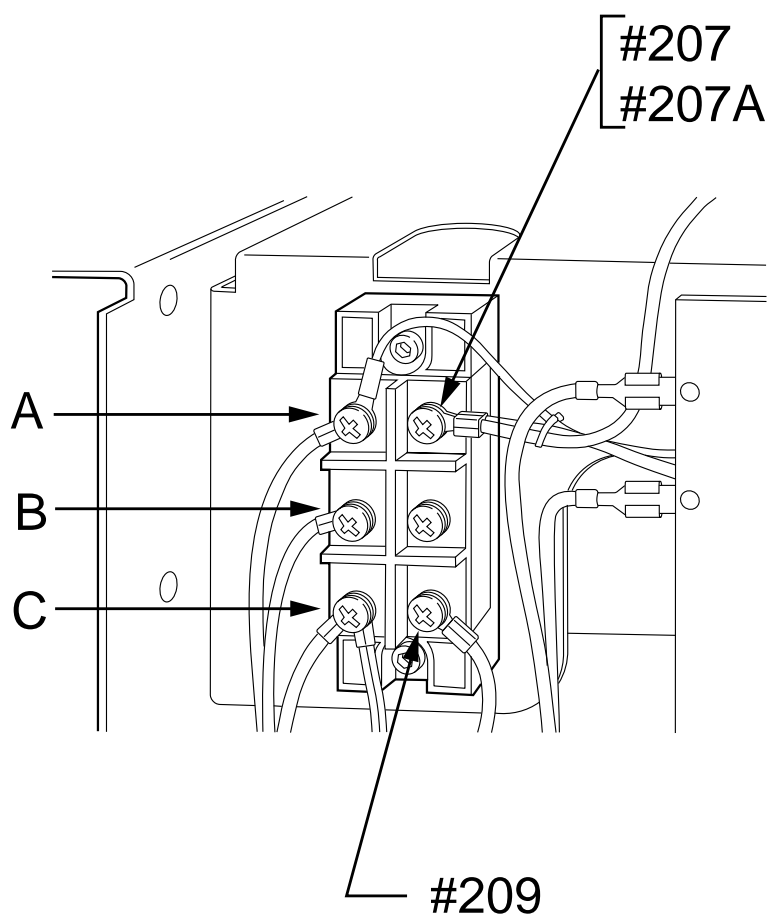

Figure F.2 Input Rectifier and Leads.
4. With the Phillips head screwdriver remove leads #207, 207A and #209 from the rectifier. See Figure F.2.
8. If the Input Rectifier is good be sure to reconnect leads #207, #207A and #209 to the correct terminals and torque to 31IN-LBS. See wiring diagram and Figure F.2.